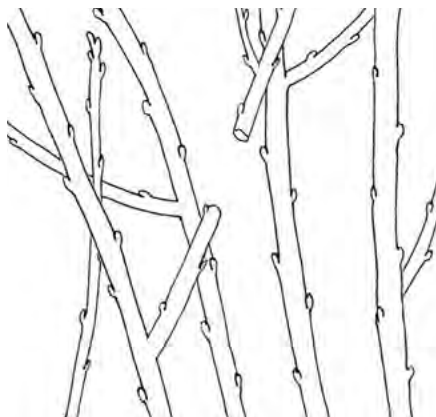

Figure 21
- Renew or remove any lateral branches larger than half the diameter of the primary scaffold (Figure 21).